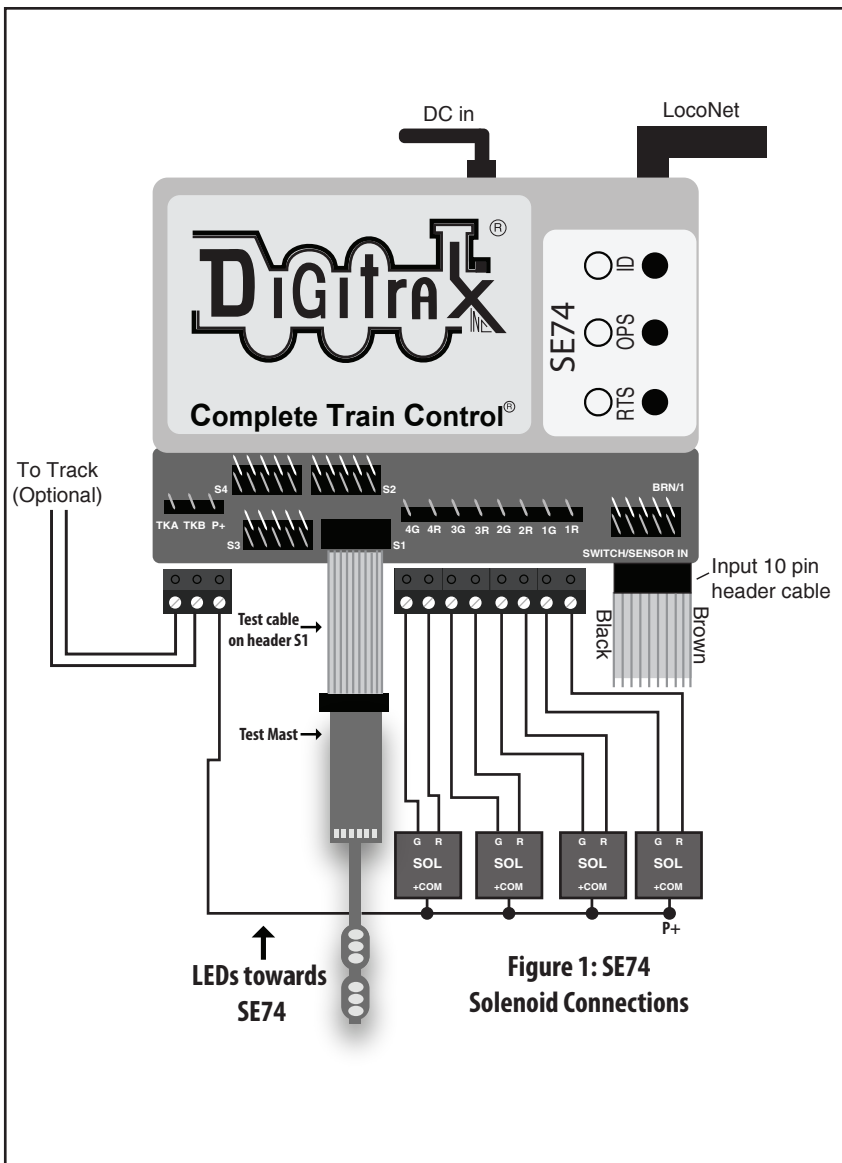

Figure 1: SE74 Solenoid Connections
1. Figure 1 shows the recommended connections to operate the SE74 on a LocoNet layout and to control 4 SE1 signal cables with 16 total signal heads and 4 solenoid turnouts.
5. Wire and plug in 3-wire solenoid turnouts as shown in figure 1. To use 4 stall type switch motors modify Option Switch (OPSW) 1 to Closed/C, (see section 4.o), and use 2 wires per motor, with no P+ connections.
6. Operate turnouts with a SW# and direction Thrown (T) or Closed(C) settings at the; Base SW#, or the next *consecutive* 3 SW#'s now used by this SE74.